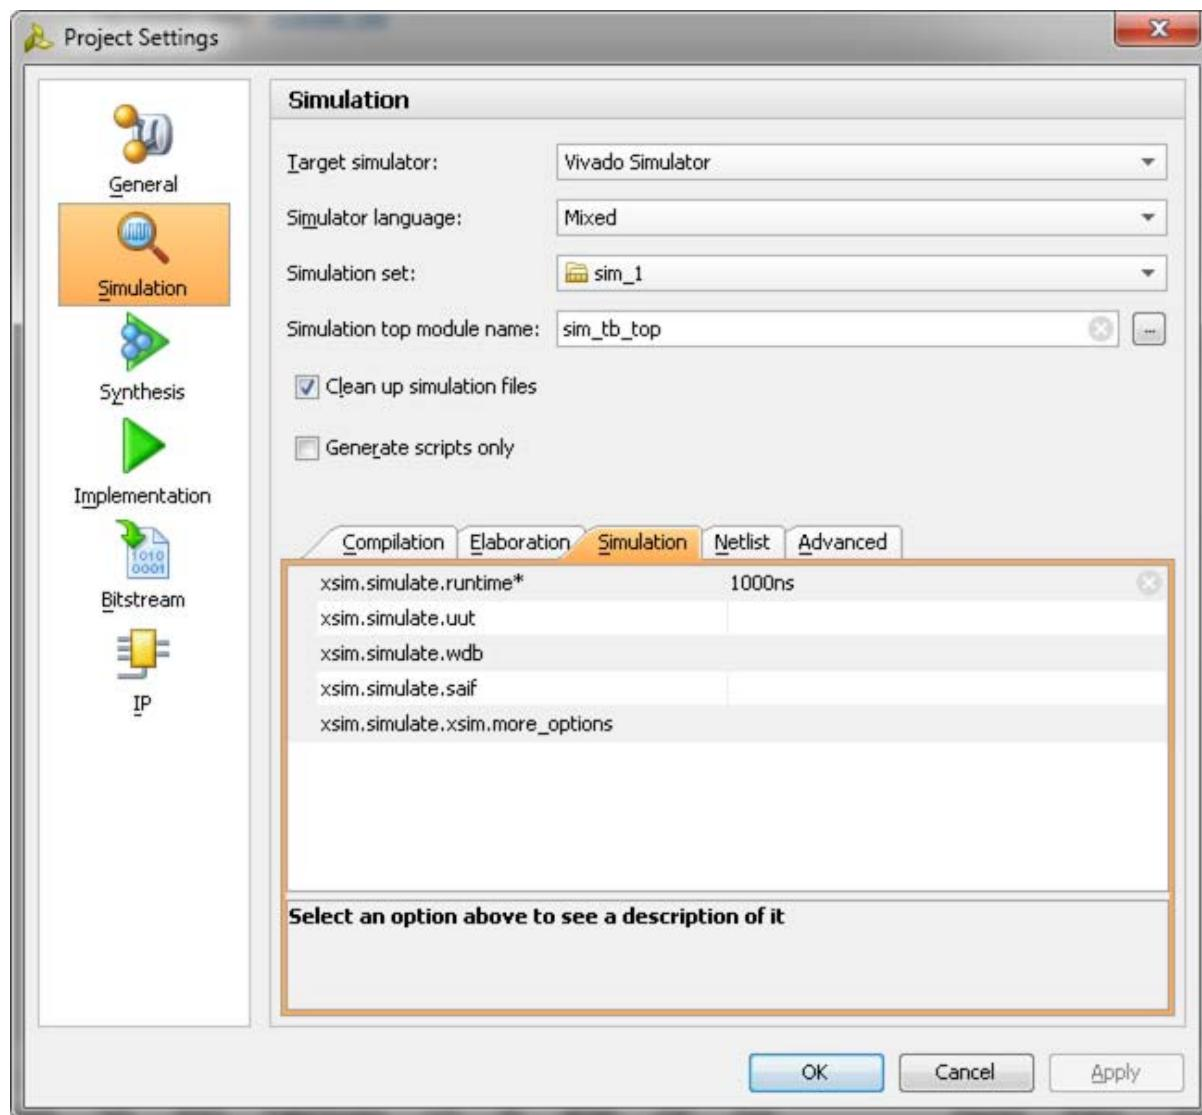

Figure 4-39: Simulation with Vivado Simulator
1. In the **Open IP Example Design** Vivado project, under **Flow Navigator**, select **Simulation Settings** (Figure 4-39).
2. Under the **Simulation** tab as shown in Figure 4-39, set the xsim.simulate.runtime as 1 ms (there are simulation RTL directives which stop the simulation after a certain period of time, which is less than 1 ms). Apply the settings and select **OK**.
- b. Under the **Simulation** tab, set the `modelsim.simulate.runtime` to 1 ms (there are simulation RTL directives which stop the simulation after certain period of time, which is less than 1 ms), set `modelsim.simulate.vsim.more_options` to `-novopt` as shown in Figure 4-39.